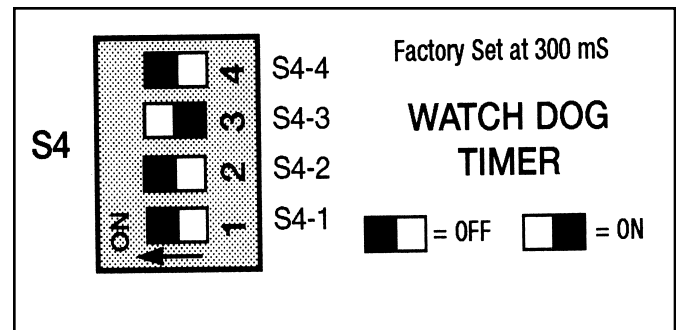

Figure 3.4 - Watch Dog Timer Dip Switch S4
1. Set the **Max Count** on the front of the control using the “UP” and “DOWN” Buttons plus the “MC” Button. Push and hold the “MC” Button down while pushing the “UP” or “DOWN” Button to set the **Max Count** in the “POSITION” Display. (See Figure 3.4)
The Watch dog Timer is set with dip switches on S4. The control is factory set for 300 mS. (Only Sw. #3 is turned on.) This time can be adjusted from 100 mS to 1 Minute. (See Watch Dog Timer Chart and Figure 3.4)